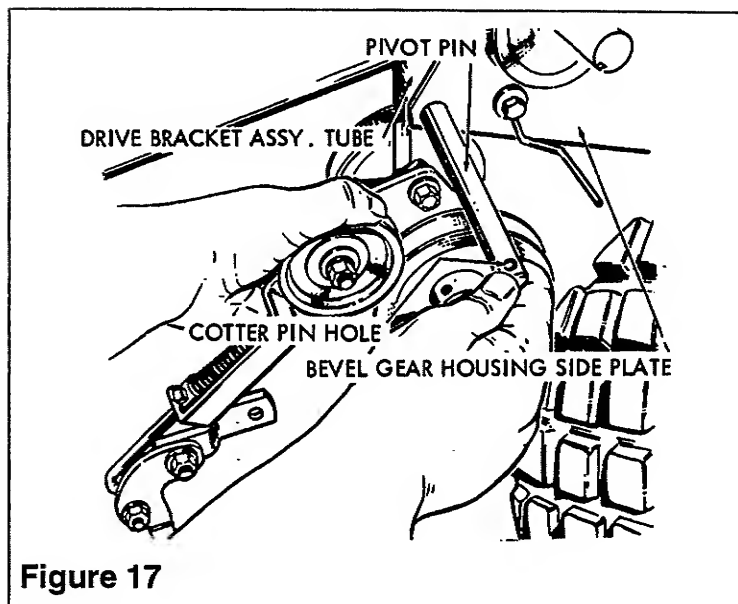

Figure 17
2. Holding the power take-off assembly in left hand as shown in Figure 17, position the tube of the drive bracket assembly between the bevel gear housing side plates. Align the holes in side plates with the hole in drive bracket assembly tube and insert pivot pin through holes in side plates and drive bracket assembly tube.